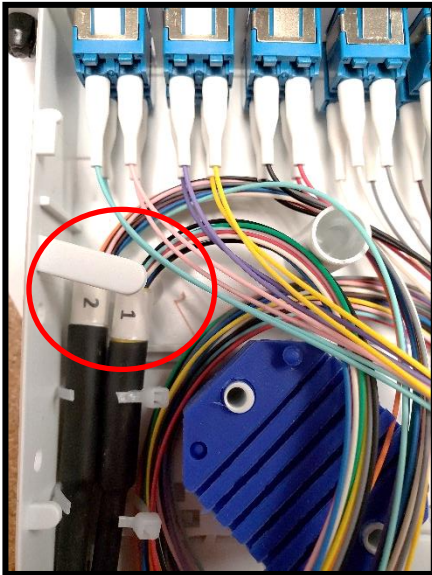

Figure 11
8.4 Once breakout kit is completed with ribbonized subunits, organize each ribbon breakout subunit according to the table in **Figure 10.** Also Identify FOX cassette subunits shown in **Figure 11.**
8.4.1 The 2 ribbon fiber termination units (**shown in Figure 11**) of the ribbon FOX cassette will each splice to a nylon subunit ribbon at the end of the furcation tubes.